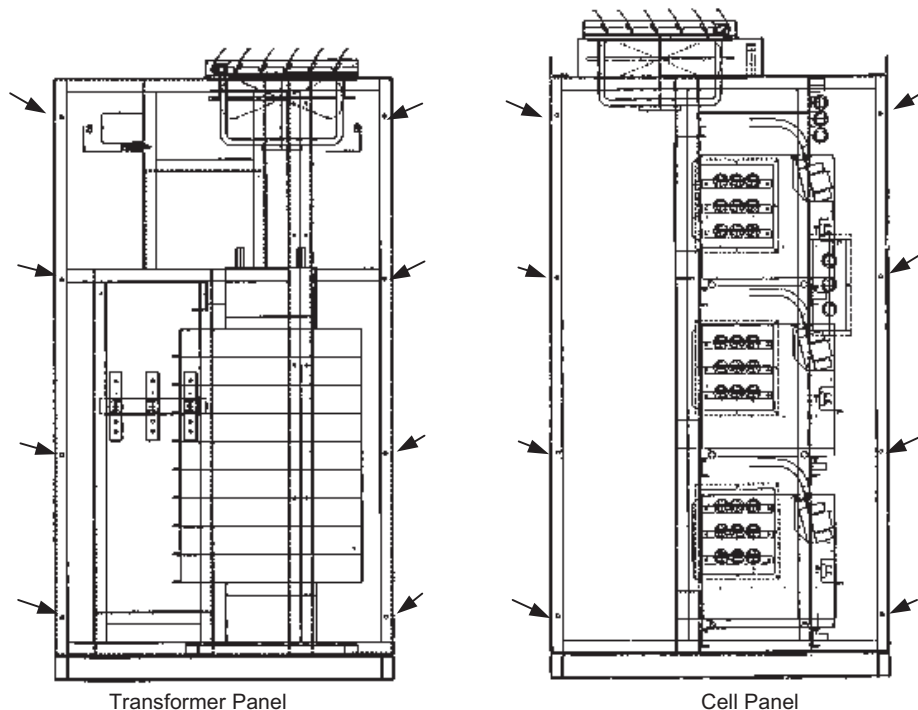

Fig 1.4 Mounting Holes for Side-by-Side Installation (Example of 3 kV 2300 kVA Matrix converter)
For these models, eight (8) holes are provided each on the Transformer Panel frame and Power Cell Panel frame as shown in *Fig. 1.4*.